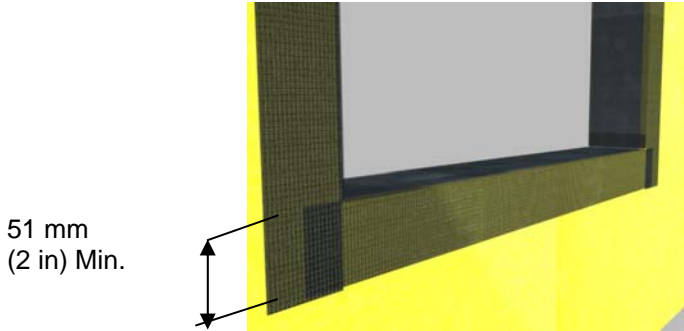

Figure 3
4) Install the AquaFlash System at the jambs in the same manner overlapping onto the sill material a minimum of 51 mm (2 in) – Figure 3.